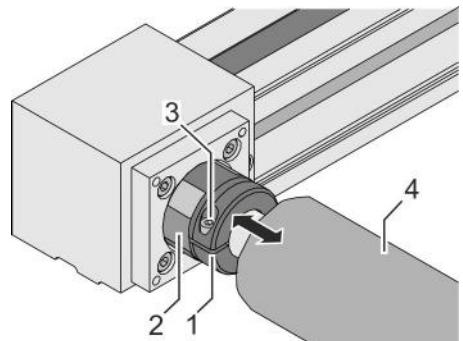

Fig. 27: Assembling the clamping hub
8. ➤ Slide clamping hubs (Fig. 27/2) into the screw-in hubs (Fig. 27/1).
To reach the clamping hubs, move the protective tube (Fig. 27/4) on the steel tube.
9. ➤ Tighten the screw (Fig. 27/3) on each clamping hub.